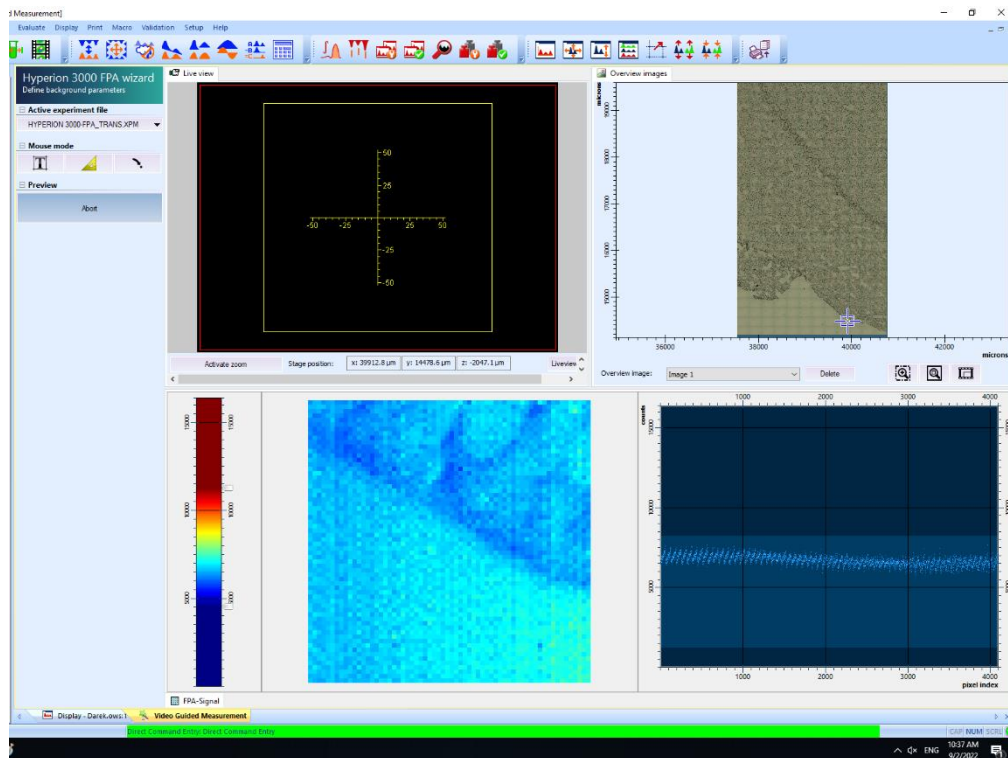

Fig. 14. The “Live spectrum” option
1. Move using the joystick to the edge of the sample or a fragment of the substrate with a small "dust". The sharpness of the image should be increased by moving the stage with slow up-down movements. The sample should stand out sharply from the background (Fig. 14).